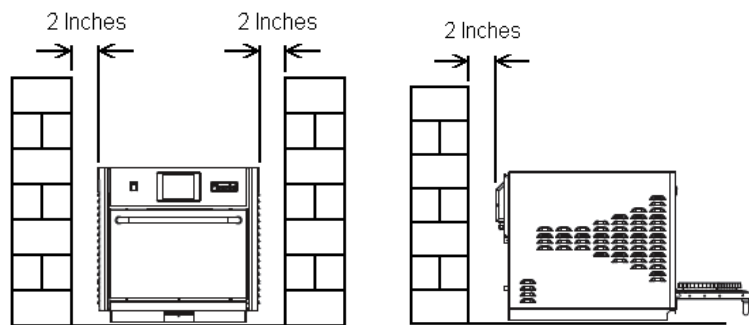

Figure 5 Oven Clearance Dimensions
- Provide clearance as shown in Figure 5 and described in the following paragraphs: